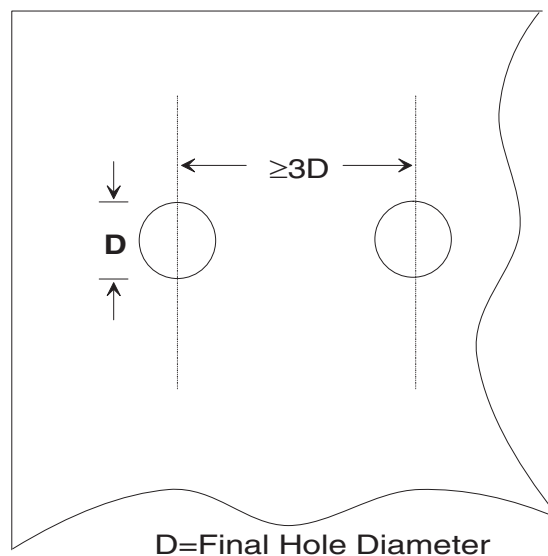

Figure 2-05 — Hole Spacing Requirements
- 2.17 **Hole Spacing Requirement** - Hole spacing may be determined by measuring the distance between the centerlines of adjacent holes. Hole spacing less than 3 diameters, should be examined, considering material movement, prior to coldworking. See paragraph 2.15, for the definition of Satellite Holes. Ref. Fig. 2-05.